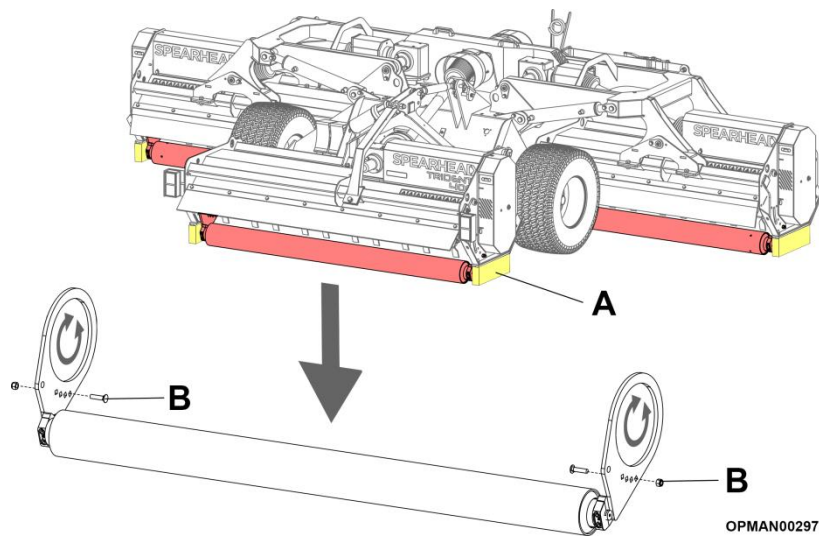

Figure 4.22 – Trident Rear Roller Adjustment
With reference to Figure 4.22, to alter the minimum height of cut:
- 4.8.1.1 Fully raise the machine on all cowls using the tractor hydraulics and block all skids or rotors to protect from hydraulic failure; see Figure 4.22 (A).
- 4.8.1.3 Loosen and remove the coach bolt and nut from both ends of the roller adjuster plate; see Figure 4.22 (B).